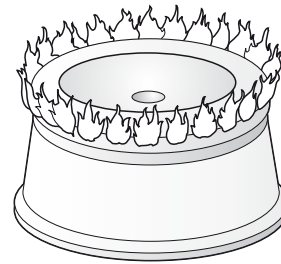

Figure 16
1. Proper Air Adjustment (figure 16)